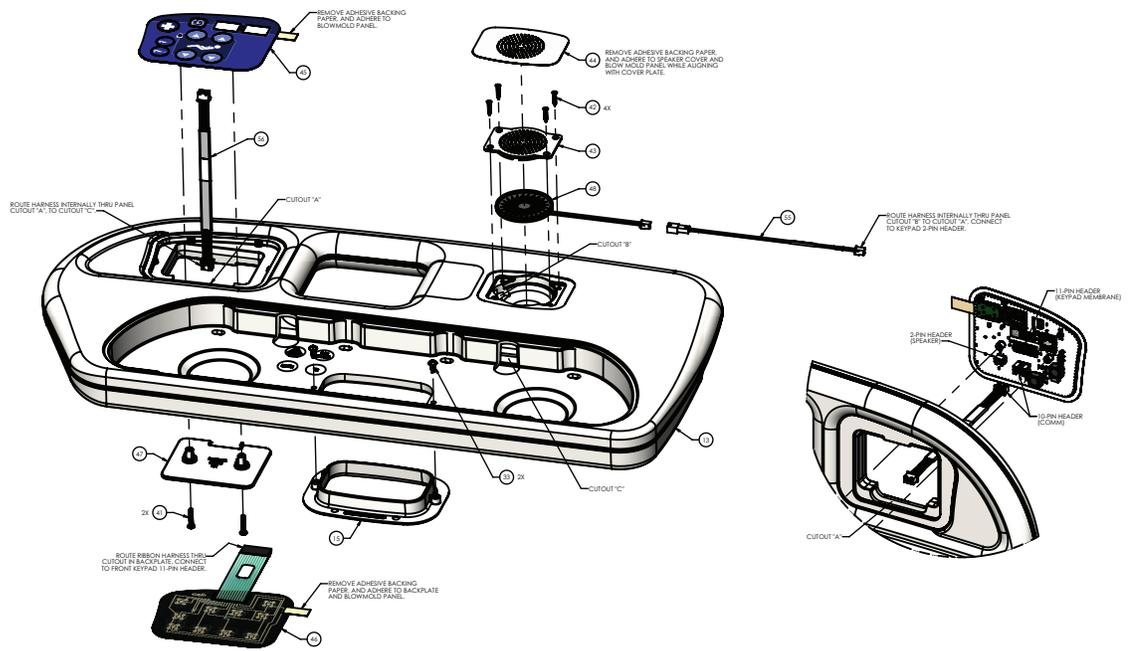

Figure 40 – Head siderail membrane replacement, patient right
6. Using a pick, remove the outer membrane (46) from the siderail hoop (13) (Figure 40).
7. Using a #2 Phillips screwdriver, remove and save the two screws (41) that secure the membrane support plate (47) to the siderail assembly (Figure 40).
8. Disconnect the outer membrane (46) from the inner membrane control board and discard (Figure 40).
10. Using a pick, remove the inner membrane (45) from the siderail hoop (13) and discard (Figure 40).
6. Using a pick, remove and discard the outer siderail label (14) (Figure 40).
7. Using a pick, remove the outer membrane (46) from the siderail hoop (13) (Figure 40).
8. Using a #2 Phillips screwdriver, remove and save the two screws (41) that secure the membrane support plate (47) to the siderail assembly (Figure 40).
9. Disconnect the outer membrane (46) from the inner membrane control board and discard (Figure 40).
11. Using a pick, remove the inner membrane (45) from the siderail hoop (13) and discard (Figure 40).
12. Using a 3/8" nut driver, remove and save the six bolts (34) that secure the siderail hoop (13) to the siderail assembly (Figure 40).
13. Discard the siderail hoop (13).